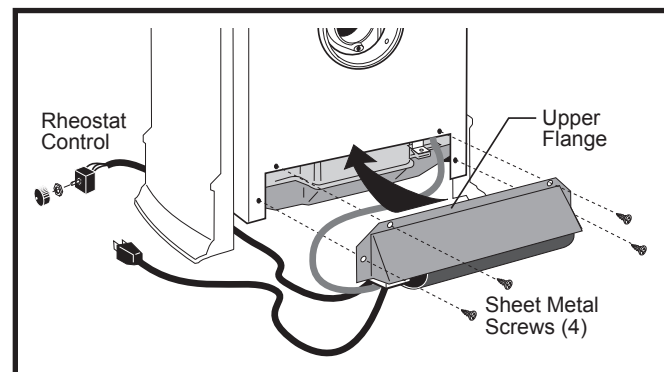

Fig. 2 The upper flange of the fan skirt should be located behind the lower edge of the shroud. (PDV20 shown)
3. Attach the Fan to the firebox by engaging the upper flange of the fan skirt under the lower edge of the Shroud and secure the skirt with the four #10 x 1/2" Hex Hd Cap screws and one star washer provided. (Fig. 2)